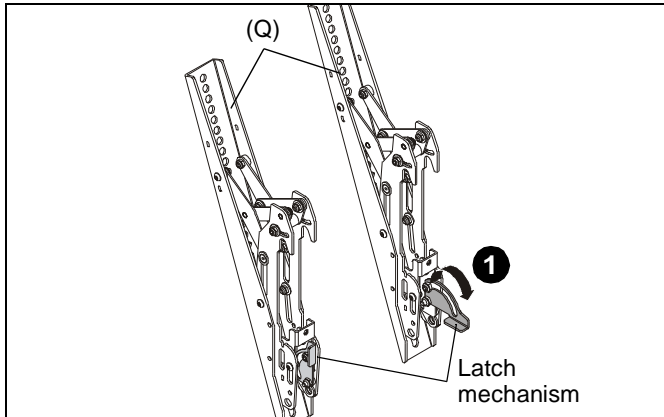

Figure 9
1. Lower the latch mechanism on each interface bracket (R). (See Figure 9)